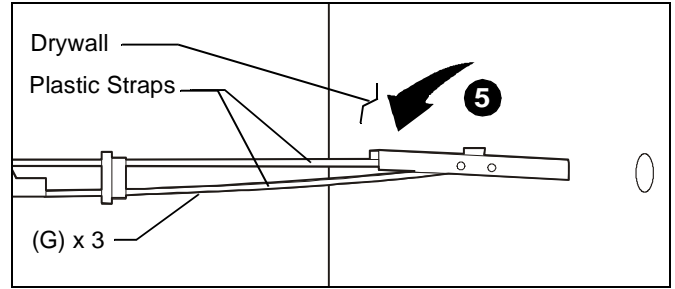

Figure 6
5. Hold metal channel on anchor (G) flat alongside plastic straps and slide channel through hole. (See Figure 6)